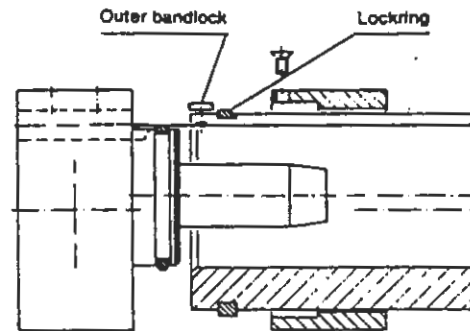

Fig. 4.
1. Push the end ring (12) on the barrel. See Fig. 4. The lock screw faces upwards.
2. Place the lock ring (11) halves on the cylinder barrel and pull the cap ring over.
3. Push the outer band lock (14) into the end ring notch and tighten the screws (19).
6. Insert the four end cap bolts (18) but do not tighten. Employ the same procedure at the other end of the cylinder. (1-6)